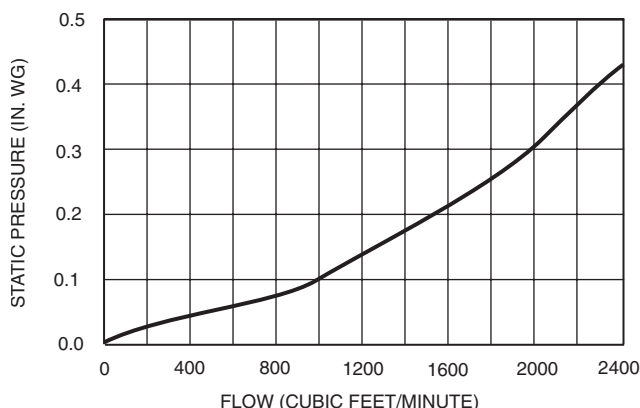

Fig. 41 — 7¹/₂ to 12¹/₂ Ton Barometric Relief Capacity
6. See Fig. 41 for barometric relief damper characteristics.